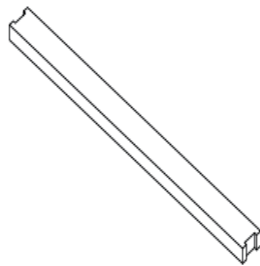

Figure 1 Wood Supporting Frame
- Unloading with a crane: Affix the lifting belt in the wood supporting frame buckle (Fig. 1,2). It is allowed only to lift one pallet at a time. Before lifting, it is necessary to confirm whether the pallet and paper box are damaged and ensure that the lifting rope is robust and firm. When being lifted close to the ground, the paper box will be gently placed in a relatively flat position on the project site by two people, one on each side.